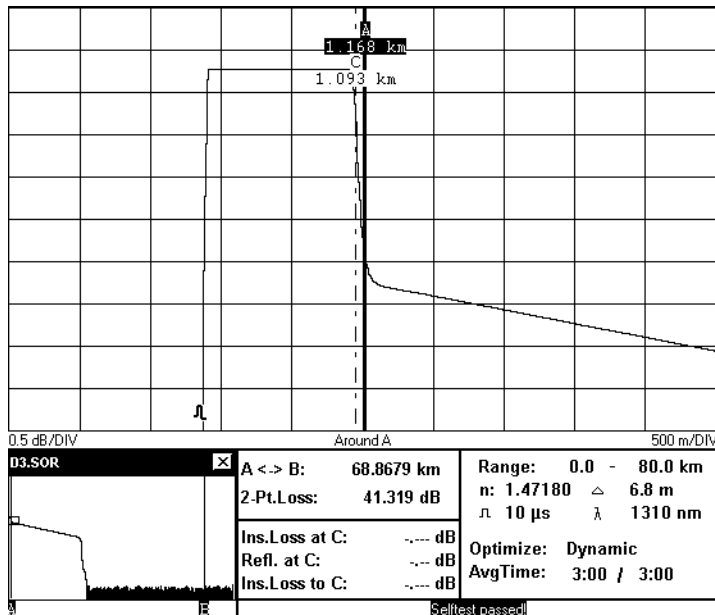

Figure D-3
- 21 Position marker A at the end of the frontreflection on the level of the extrapolated beginning of the backscatter (crossing between frontreflection and horizontal grid line). See Figure D-3.